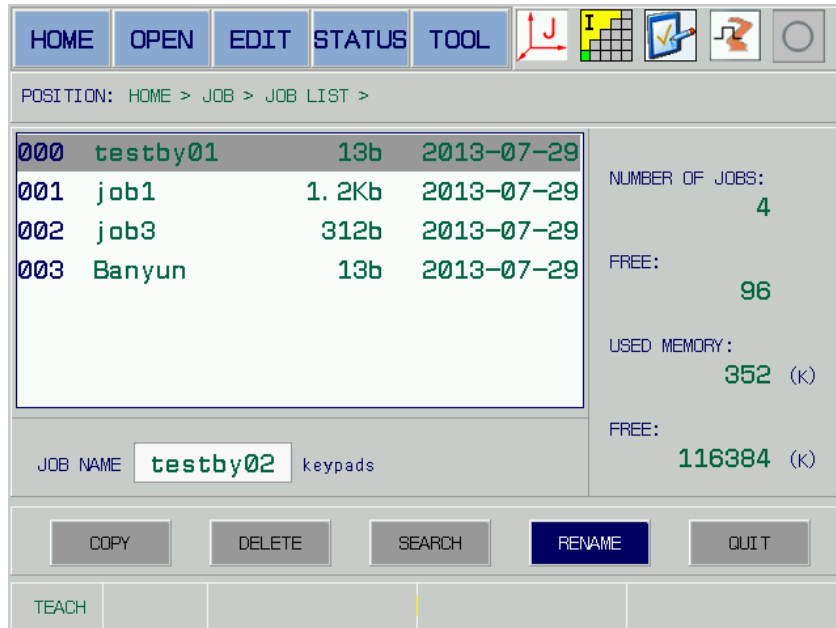

Fig. 5-20
3. Shift the cursor to the button by [TAB], then move the cursor to the [Rename] button by left/right direction button refer to the Fig. 5-20.